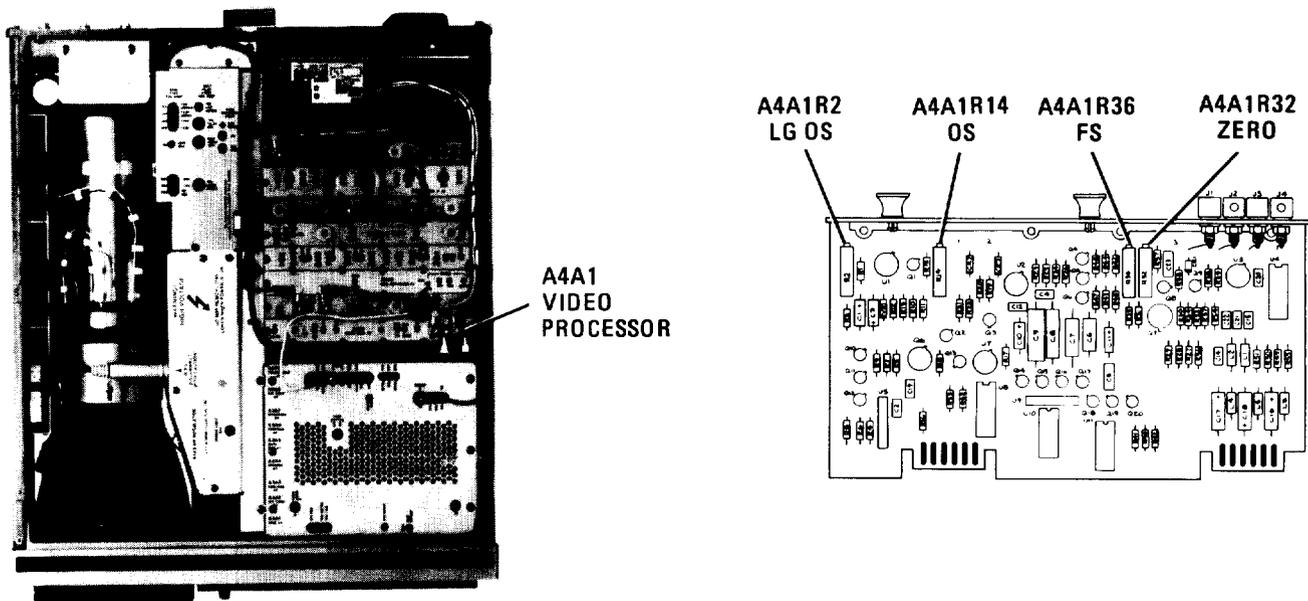

FIGURE 22. LOCATION OF VIDEO PROCESSOR ADJUSTMENTS
8. Adjust A4A1R14 OS for DVM indication of -5.000 ± 0.003 Vdc. Refer to Figure 22 for location of adjustment.
17. Adjust A4A1R36 FS for DVM indication of $+2.000 \pm 0.001$ Vdc. Refer to Figure 22 for location of adjustment.
19. Adjust A4A1R32 ZERO for DVM indication of 0.000 ± 0.001 Vdc. Refer to Figure 22 for location of adjustment.
26. Adjust A4A1R2 LG OS for DVM indication of $+0.100 \pm 0.001$ Vdc greater than the DVM indication recorded in step 24. Refer to Figure 22 for location of adjustment.